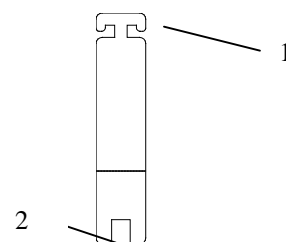

Fig. 5b
- The tool (fig. 5b.2, size 30) for the height adjustment of the setting feet of the cryostat is packed together with the accessories of the cryostat (separate carton on the foot rest of the cryostat).